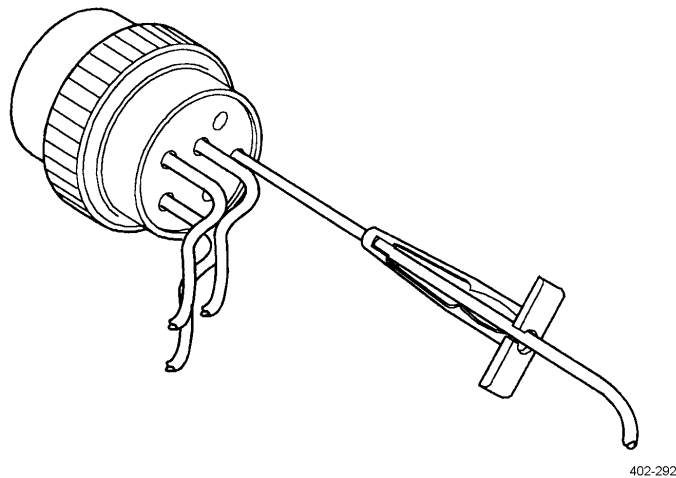

Figure 17. Removal Tool Position.
- (1) With rear insert toward you, snap appropriate size removal tool over cable of contact to be removed (Figure 17).